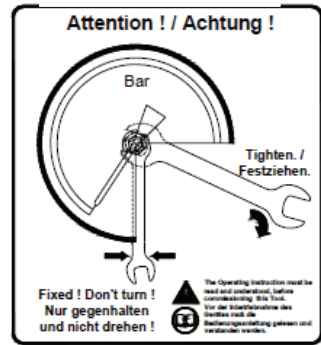

FIG 15
- When work is done, stop pumping handle/foot pedal, slowly and carefully remove load from workpiece by turning the release valve counterclockwise in small increments.(must turn with the small angle, the biggest is two circles Fig.15)